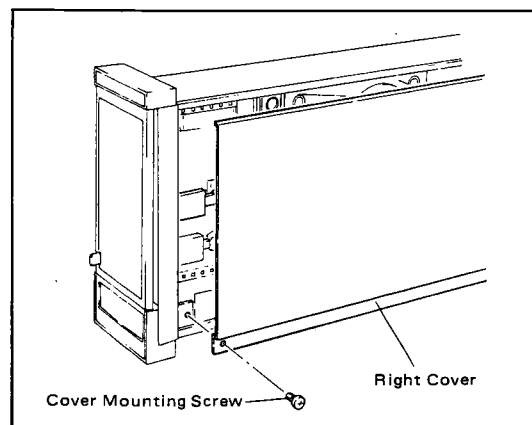

Figure 3-1. Side Cover Removal.
- (1) Pull the internal unit out of the housing to separate them.
- (2) Remove two screws on the right side cover of the internal unit, and remove the side cover (see Figure 3-1).